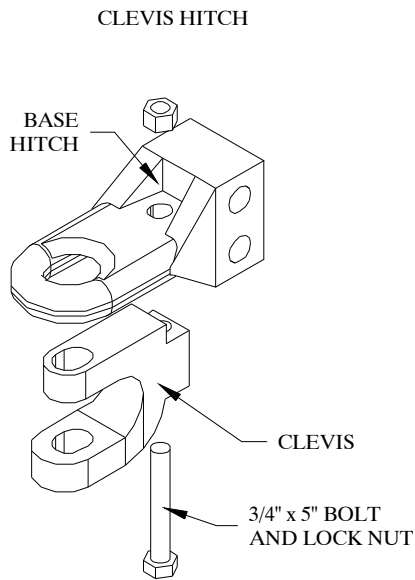
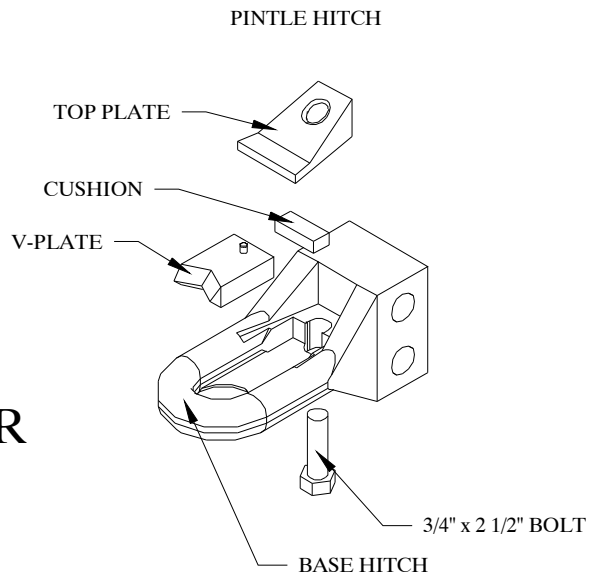

Figure 2
Figure 3
4. Assemble either a clevis hitch (figure 2) or a pintle hitch (figure 3) as required by the tractor or towing vehicle. Note the opposite orientation of the base hitch for each hitch type. Attach the hitch assembly to the Main Frame with two 1" x 6 $\frac{1}{2}$ " bolts and locking nuts.